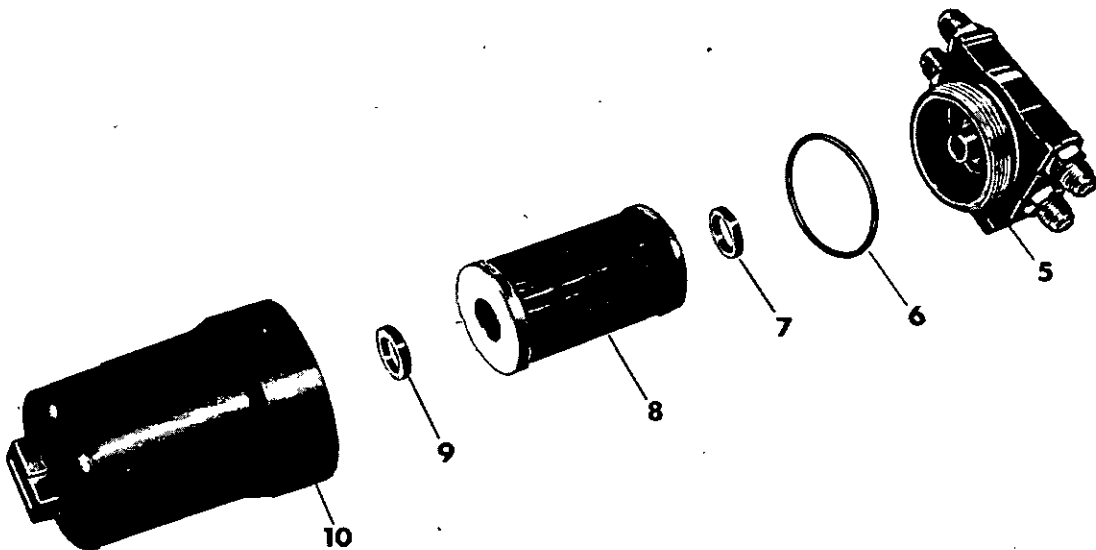

FIG. 3
1. Fig. 3. Unscrew the filter housing (10) from the filter head (5).
2. Remove the element (8) sealing rings (7 and 9) and the 'O' ring (6). Thoroughly clean all components with paraffin, then examine the filter head and housing for cracks, or damage. Always fit a new element and seals.